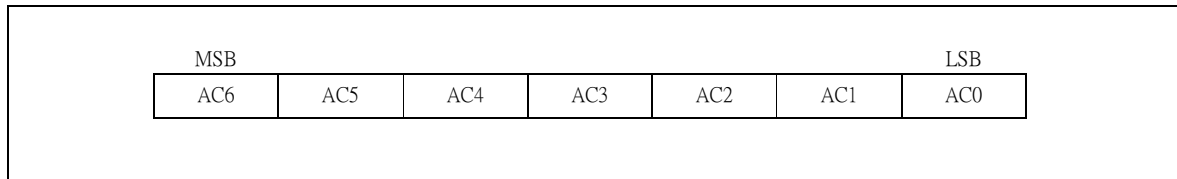

Figure 1. DDRAM Address
DDRAM stores display data of maximum 80 x 10 bits (80 characters). DDRAM address is set in the address counter (AC) as a hexadecimal number. (refer to Figure 1.)